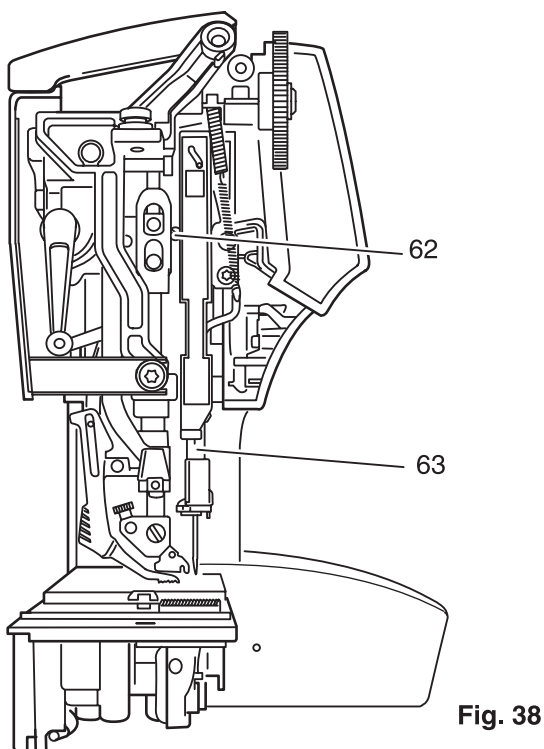

Fig. 38
- Loosen screw 62 just a little (fig. 38).